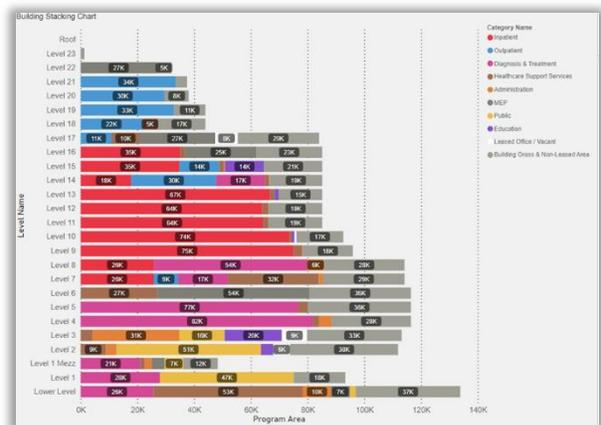

Figure 12 Building stacking can encompass one or all buildings.
- Horizontal bar charts (Figure 12) make very good stacking diagrams for buildings as long as an architectural illustration of the building form is not required.